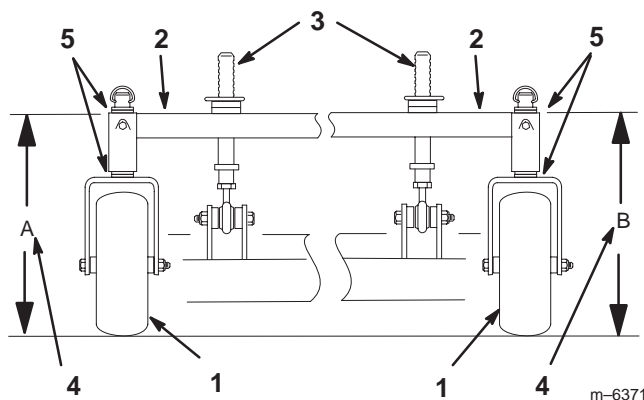

Figure 49
4. Measure carrier frame height at location **A** (Fig. 49).
5. Measure carrier frame height at location **B** (Fig. 49).